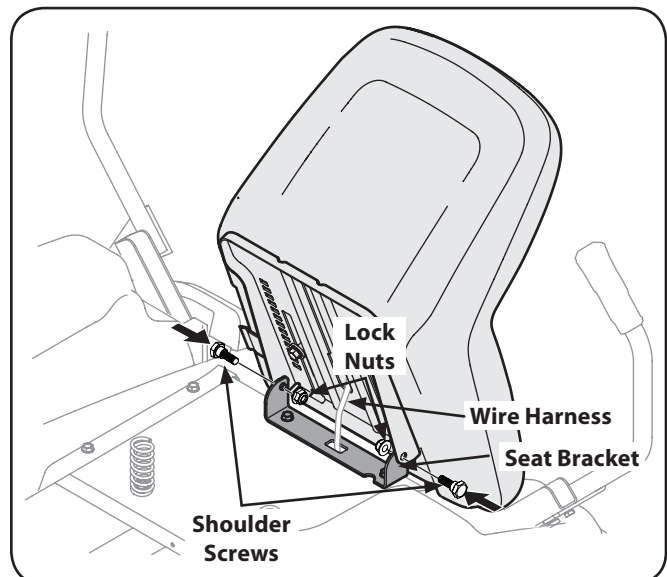

Figure 3-3
3. Rotate the seat into position and secure the seat into place with the previously removed shoulder screws and lock nuts. Be careful not to crimp or damage the wire harness while installing the seat. See Figure 3-3.